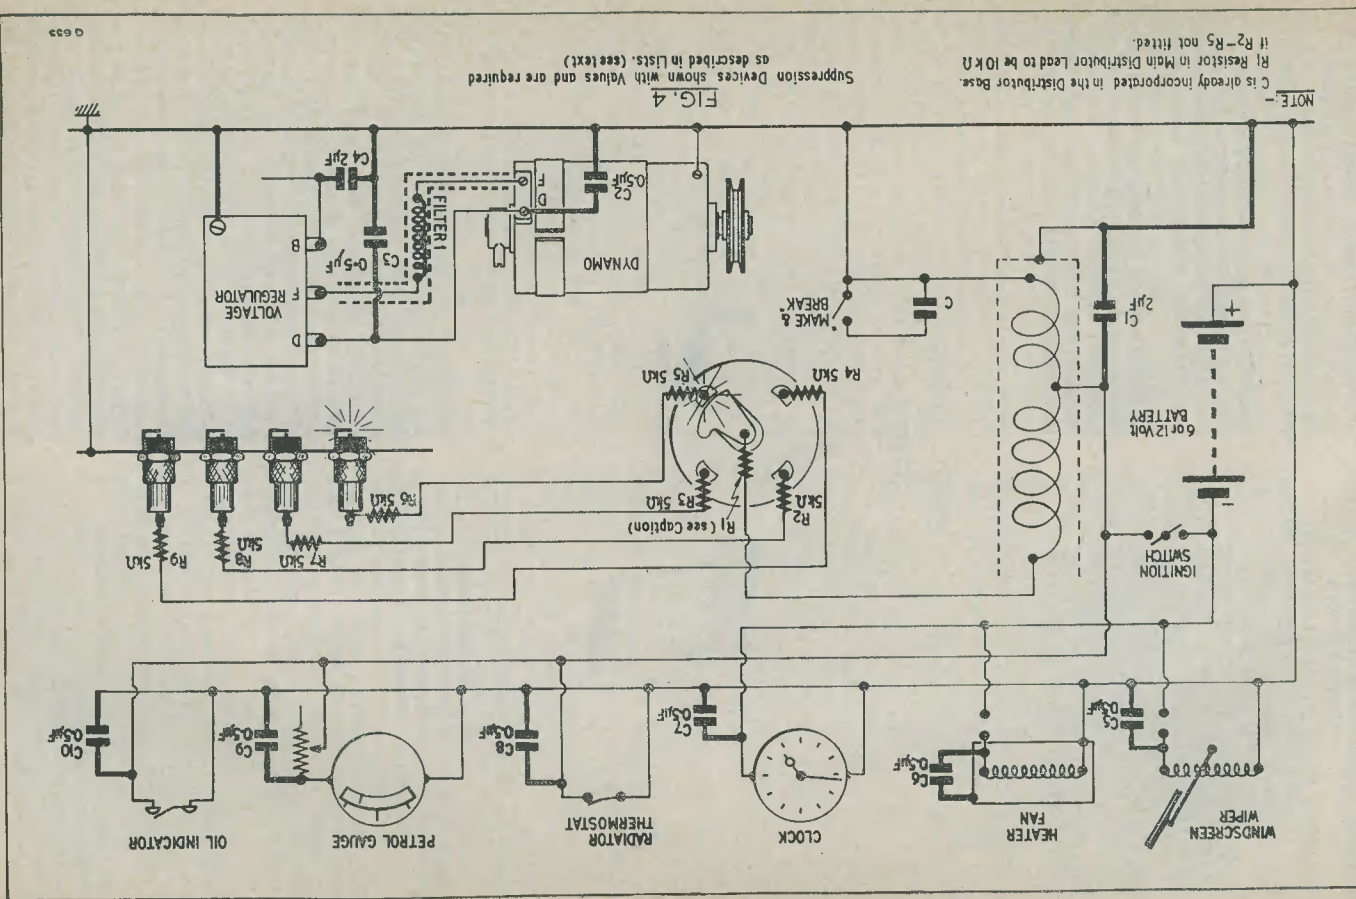

FIG. 4
1. *Measures for Superhet Receivers with Medium and Long wave tuning* (Fig. 4):